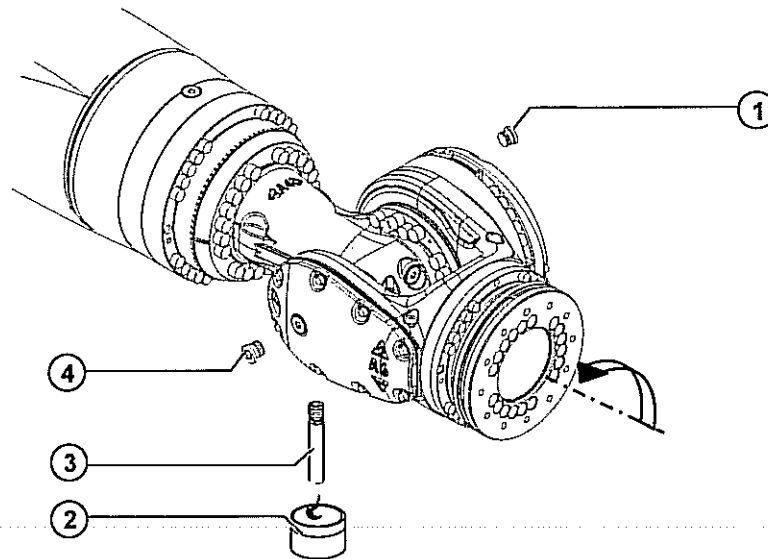

Fig. 10-6: Oil change, A5
2. Place a suitable receptacle (>>> Fig. 10-6) under the (lower) magnetic screw plug and remove the magnetic screw plug.